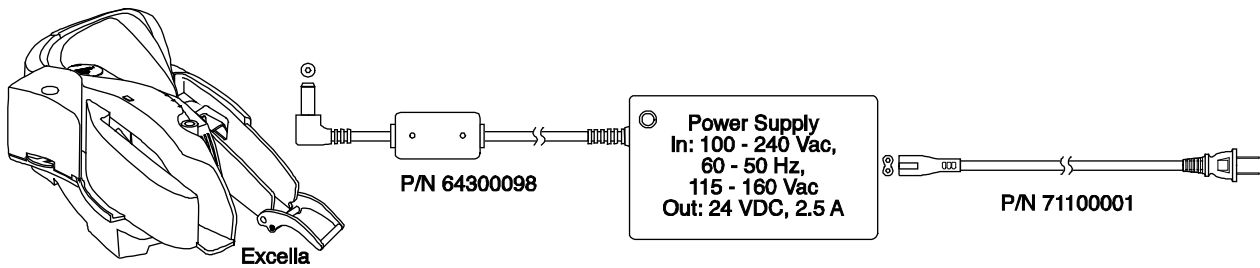

Figure 2-9. Power Supply and Cords. P/N 64300098 and 71100001
- Power Supply and Cords – Power Supply, Input 100-240 VAC, 1.5A, 60-50 Hz, P/N 64300098 and Power Cord-AC – US 3 Blade Non-Pol, IEC C7, P/N 71100001 shown in Figure 2-9